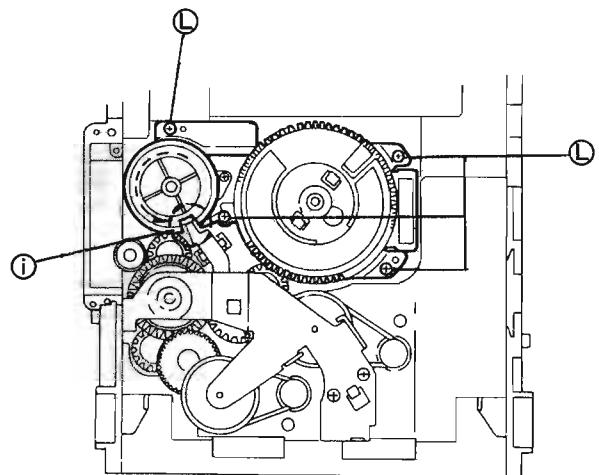

Fig. 36
4. Rotate the Cam gear L so that the select gear's ② is positioned as shown in Fig.36.
5. Remove 4 screws ② securing the cam unit which includes the cam gear L and Cam R1, R2 ass'y. (See Fig 36.)